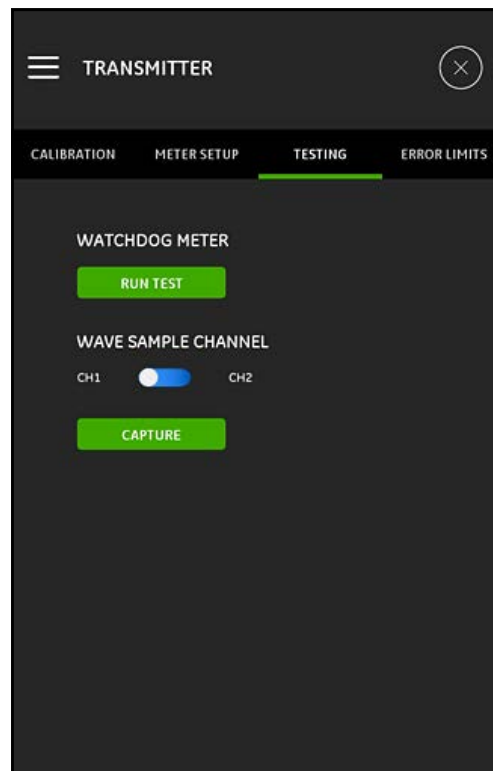

Figure 133: The TESTING Menu
The TESTING menu (see *Figure 133* below) is used to ensure that the PT900 is performing properly. The following tests are included:
1. Click the RUN TEST button in the TESTING menu (see *Figure 133* on page 100).